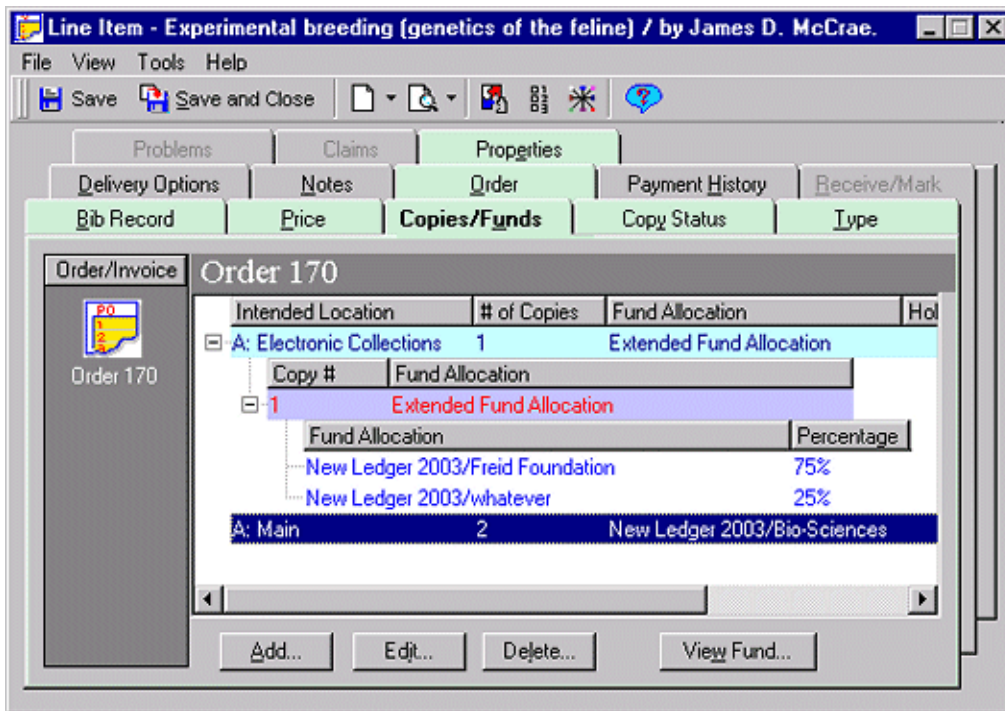

Figure 6-40. Copies/Funds tab, hierarchy
5. If your entries are complete and you will not be using the Extended Fund Allocation feature, click the **Close** button to return to the **Copies/Funds** tab of the **Line Item** dialog box (see Figure 6-40). Otherwise, continue with Procedure 6-13, Editing extended fund allocations.
Result: The fund's allocation is changed. The **Copies and Funds** dialog box closes, and all copies and funds for the item display in a hierarchical structure on the **Copies/Funds** tab of the **Line Item** dialog box (see Figure 6-40).
The copy and fund information displays in a hierarchical structure on the **Copies/Funds** tab (Figure 6-40) after fund allocations have been completed.